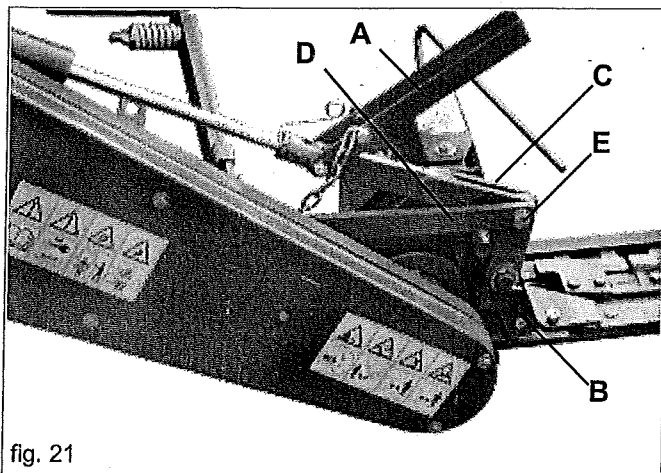

fig. 21
For mowing on sloping ground, disable the lifting device (A) as shown in Figure 21 and couple the lever (B) with tie rod (C) and the rod (D) in position (E) as shown in Figure 21.